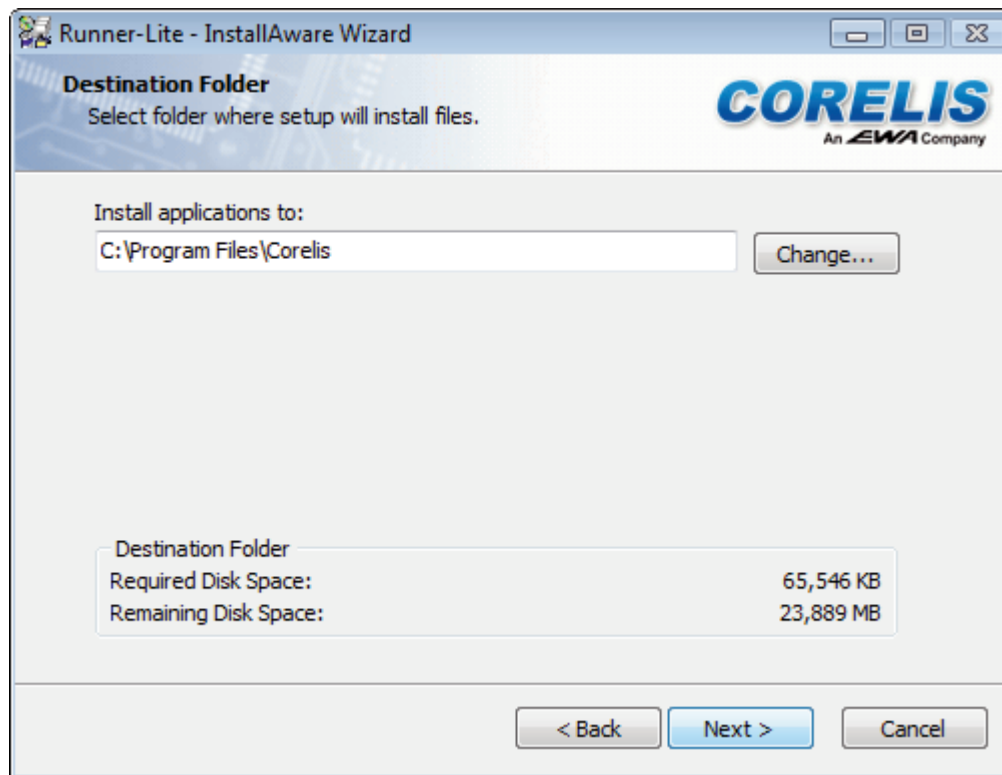

Figure 2-6. Destination Folder Screen
7. The **Destination Folder** screen, shown in Figure 2-6, will now appear. You may accept the default installation folder, or specify a different folder location for the installation. To proceed with the installation, click on the **Next** button.